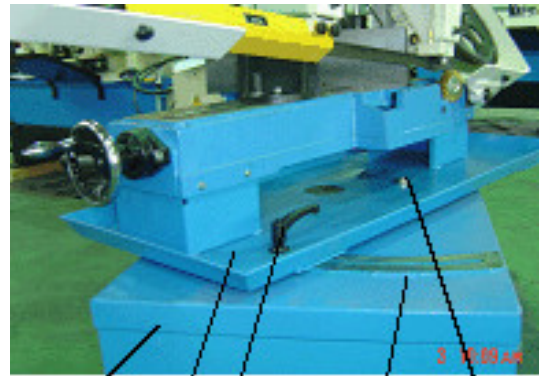

Fig.24
4. Drain the gear box by removing screw (A) Fig. 24.
5. Replace screw (A) Fig.24. and lower the saw arm to its lowest position.